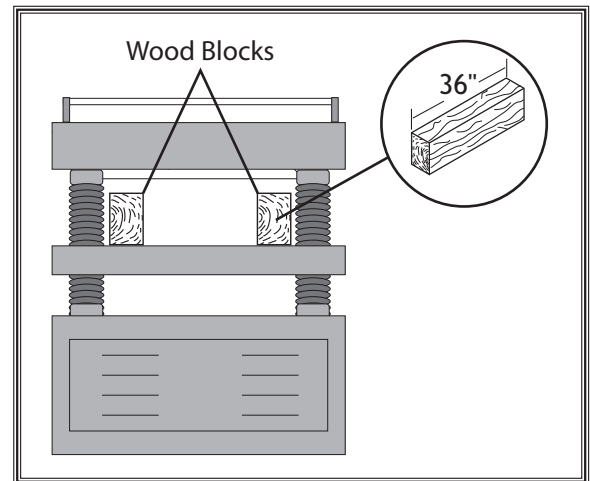

Figure 50. Wood blocks properly positioned on the planer table.
5. Place wood blocks along sides of table, as illustrated in **Figure 50**.